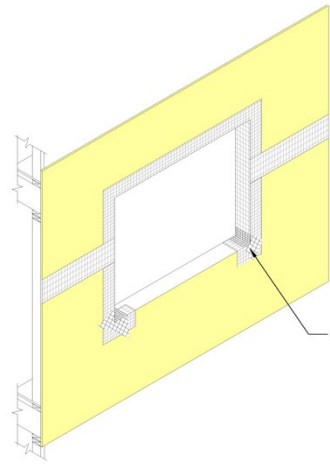

Fig. 9
- 1) Apply Dryvit Grid Tape along the jambs and head of the opening as well as all sheathing joints that may intersect the opening and lap onto face of wall a minimum of 2 in (51 mm). Add additional pieces of Grid Tape at the inside corners of the opening to maintain continuity – Figure 9.